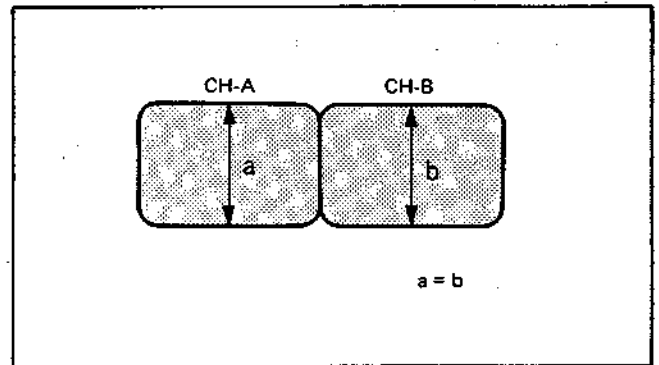

Fig. 2-30
- Match up CH-A and CH-B RF output levels with RP board CH balance. (Fig. 2-30).